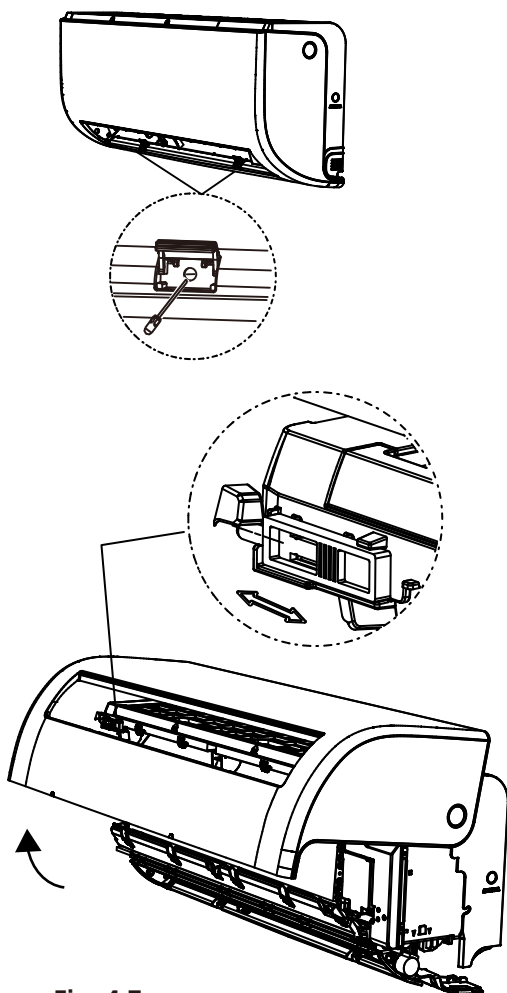

Fig. 4.7
Firstly, unscrew the two screws showed in the picture below, then open the panel, and fix the position of the panel by the latch(see Fig.4.7).
2. Open front panel of the indoor unit by loosen the screws according to picture Fig.4.7, which provide big space for wiring connection.